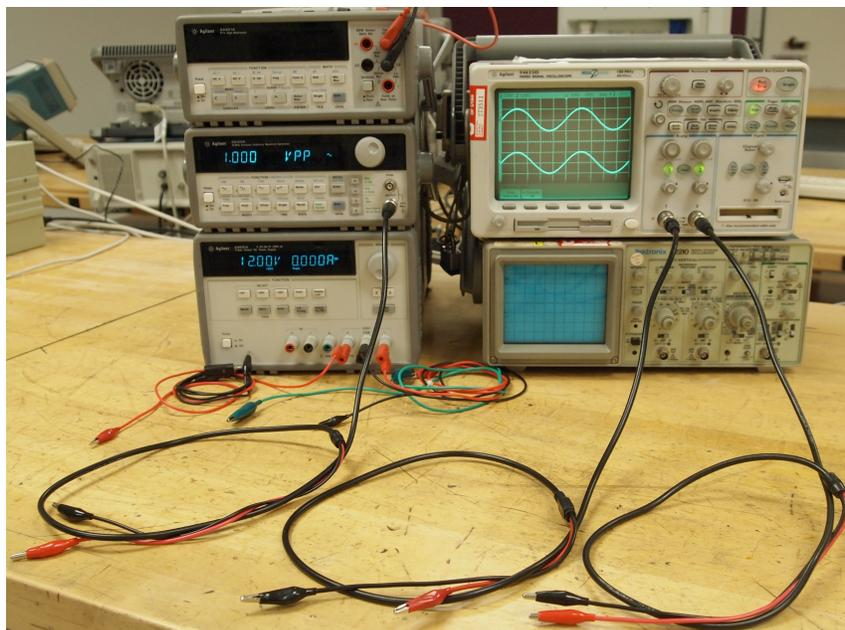

Figure 10. Waveform generator and oscilloscope connections.
2) Test the op-amp circuit using a function generator and an oscilloscope. Fig. 10 shows how to connect leads to the function generator and oscilloscope in preparation for making measurements. After making the connections shown in Fig. 10, connect all the black leads to 0V, which is running all the way down the leftmost column of the breadboard. Add wires for connections as needed. Connect the function generator output (red alligator clip) to “Input 1” on the breadboard. Also, connect the red alligator clip for input 1 on the oscilloscope to “Input 1” on the breadboard. Input 1 of the oscilloscope will show the waveform from the function